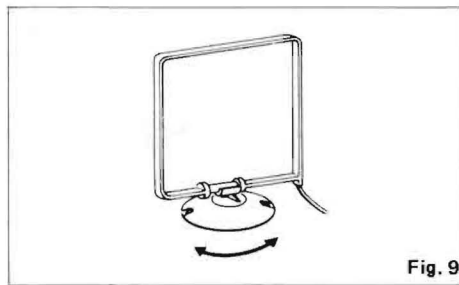

Fig. 9
- When too much noise occurs (Fig. 9)